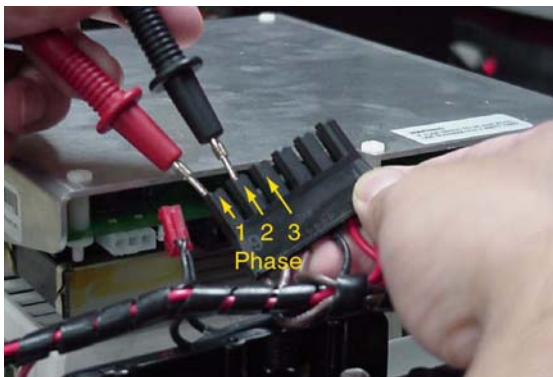

Figure 4-29 Measuring the AC input to the Soft-Start Controller
6. Place the red (+) meter probe to measure phase 1 of the input cable, and place the black (-) meter probe to measure phase 2 of the input cable. See Figure 4-29.